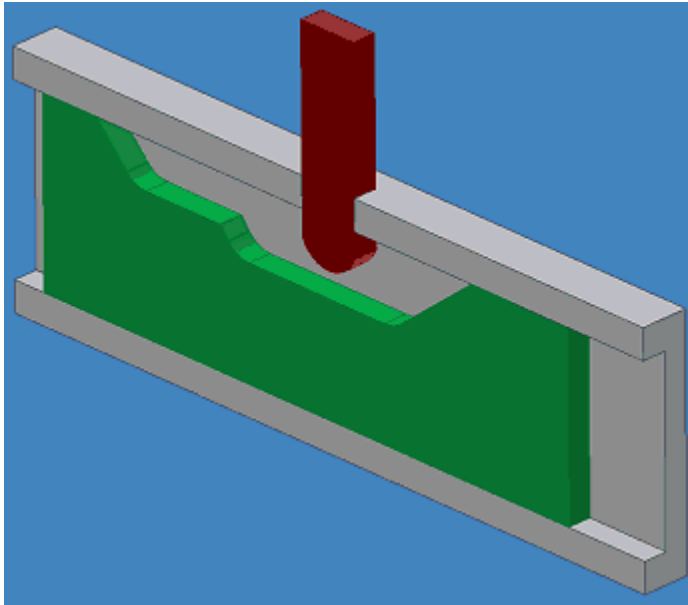

Figure 8: A flat cam and follower.
1. Open the assembly file BF-03-05.iam, which looks like Figure 8.